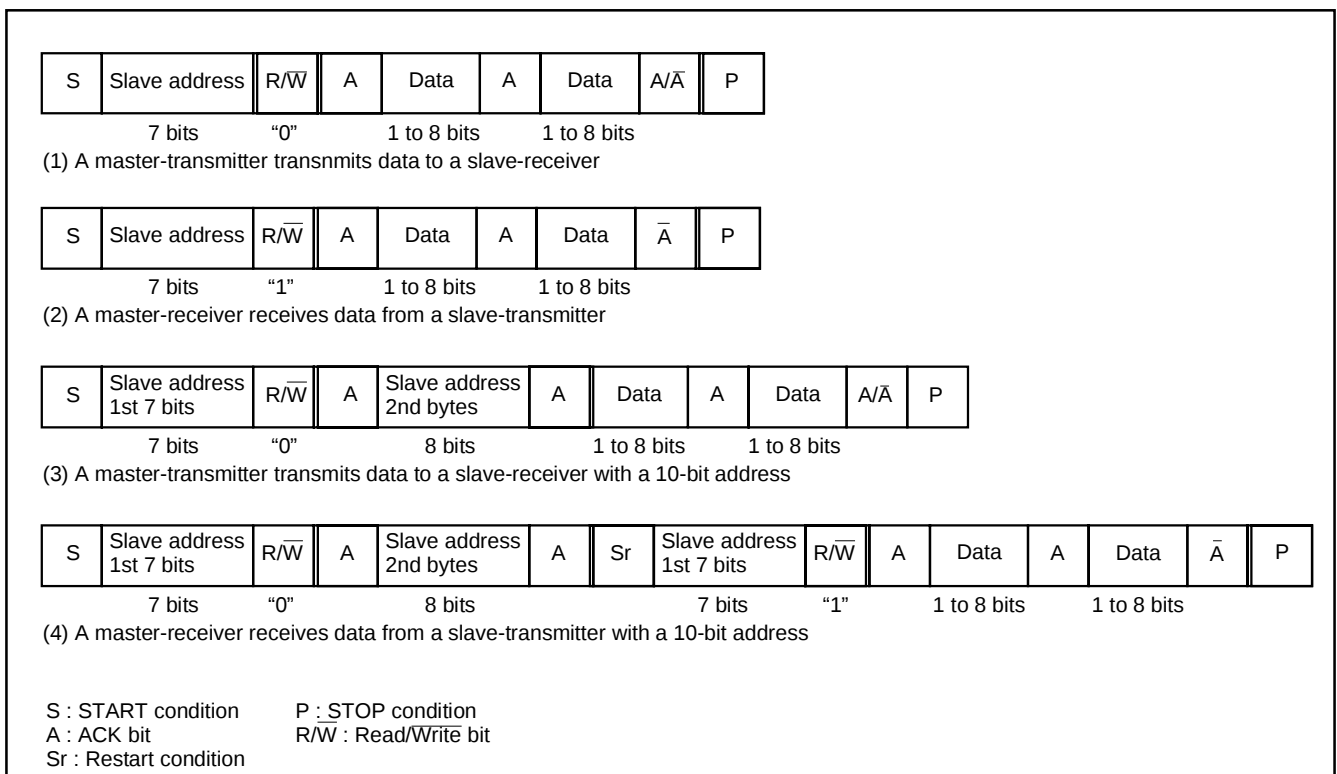

Fig. 42 Address data communication format
① 7-bit addressing format
To adapt the 7-bit addressing format, set the 10BIT SAD bit of the I²C control register (S1D) to "0". The first 7-bit address data transmitted from the master is compared with the high-order 7-bit slave address stored in the I²C address register (S0D). At the time of this comparison, address comparison of the RWB bit of the I²C address register (S0D) is not performed. For the data transmission format when the 7-bit addressing format is selected, refer to Figure 42, (1) and (2).
② 10-bit addressing format
When the first-byte address data agree with the slave address, the AAS bit of the I²C status register (S1) is set to "1". After the second-byte address data is stored into the I²C data shift register (S0), perform an address comparison between the second-byte data and the slave address by software. When the address data of the 2 bytes agree with the slave address, set the RWB bit of the I²C address register (S0D) to "1" by software. This processing can make the 7-bit slave address and $\overline{R/W}$ data agree, which are received after a RESTART condition is detected, with the value of the I²C address register (S0D). For the data transmission format when the 10-bit addressing format is selected, refer to Figure 42, (3) and (4).